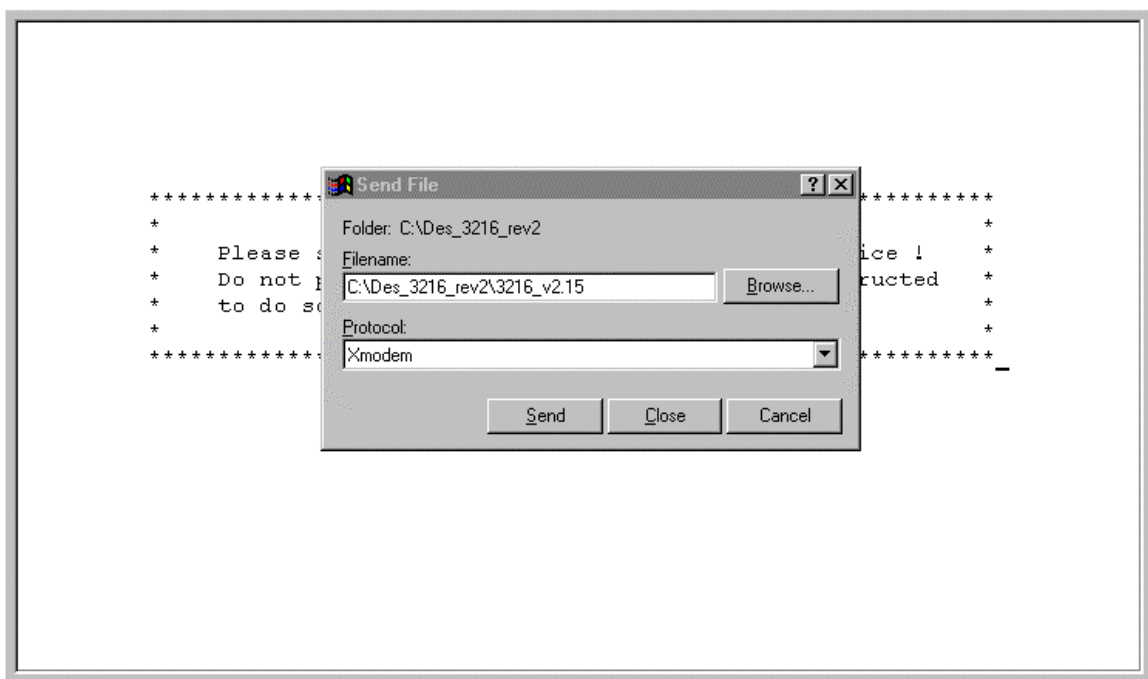

Figure 16: Send File
5. Select Browse on the panel displayed in Figure 16. The browse option shows the contents of your hard drive. You must specify the path from the DES-3216 to the file the firmware is in. Navigate to the file the firmware is stored in and select it. Use XMODEM to transfer the file.